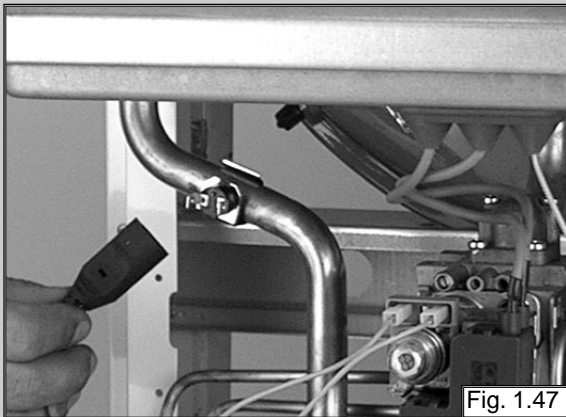

Fig. 1.47
1. Remove the electrical connector by the overheat thermostat (see fig. 1.47);